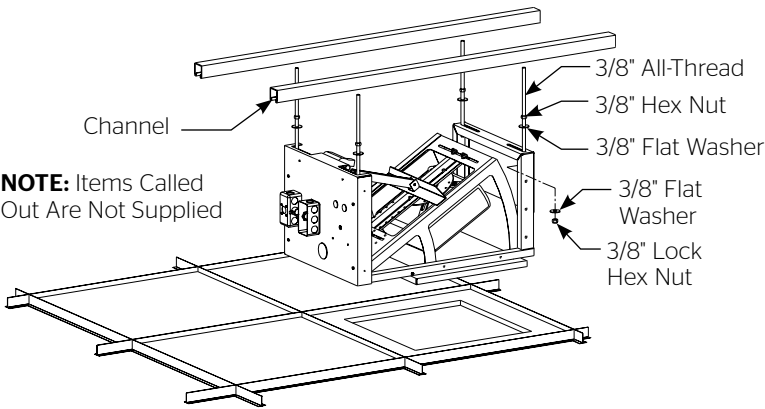

Figure 10
8. Attach Da-Lift to the structural ceiling. See Figure 10.